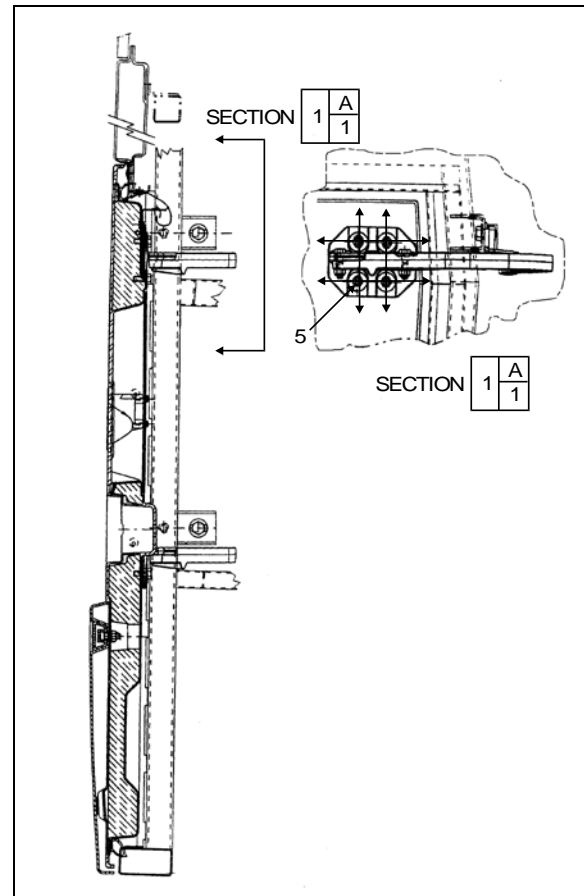

FIGURE 81: FRONT SERVICE DOOR
7. Loosen screws (5, Figure 81) to allow the door to be shifted "UP or DOWN".